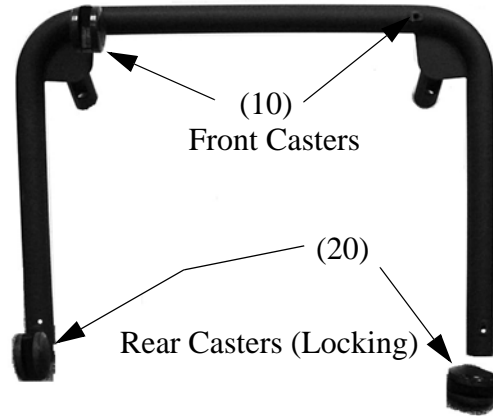
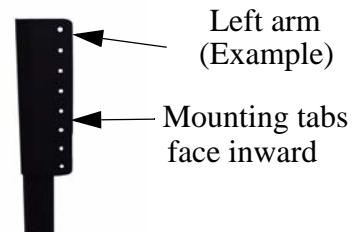
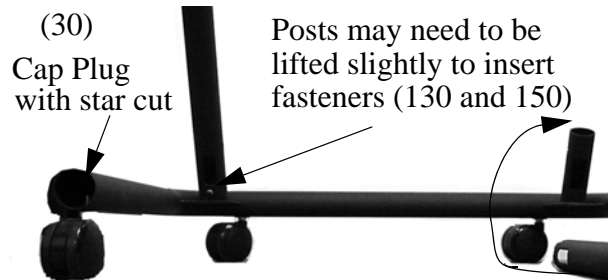

Figure 1. Install Casters
Figure 2. Turn Mounting Tabs Inward
Figure 3. Install Legs
1. Place base (100) upside down (see Figure 1).
- a. Thread two regular casters (10) into the holes near the corner support posts in the base (front) as shown in Figure 1.
- b. Thread two locking casters (20) into the holes at the end of the support posts for the base (front) as shown in Figure 1.
2. Place base (100) upright on casters.
3. Install legs for base (100) as follows:
- a. Insert left leg (110) and right leg (120) into the support posts on the base. Make sure the mounting tabs face inward (see Figure 2).
- b. Secure both legs using two washers (150) and two 1/4 x 1/2" screws (130).
- c. Install cap plugs (30) in base (see Figure 3).